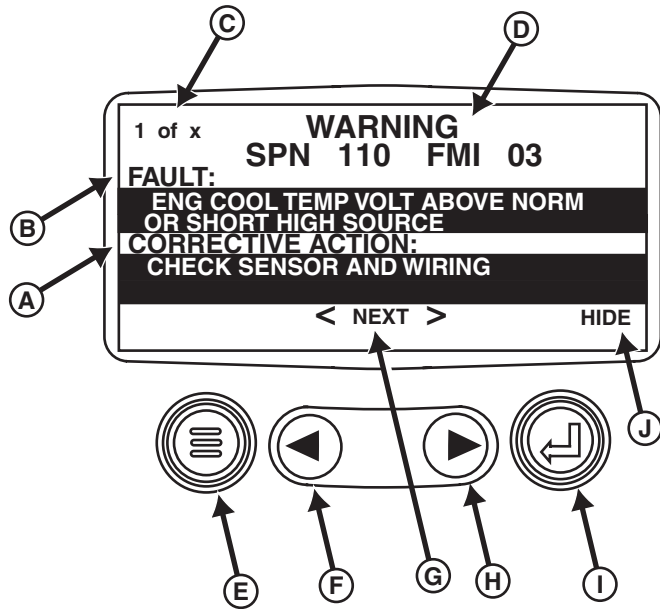

Figure 1. Active Code Diagnostic Screen
1. When the diagnostic gauge receives a diagnostic trouble code, the engine parameter screen is replaced with the "Warning" screen. See figure 1.
- SPN/FMI code (D). Refers to the trouble shooting diagnostic procedure.
- Name of diagnostic code (B) referenced in manual.
- A brief description for corrective action (A).
- The word "NEXT" (G) indicates there are more fault codes to be viewed.
- "1 of x" (C) indicates the current diagnostic code displayed of the total number.
- To hide (J) this screen and return to the parameter display screen, press the "Enter" Key (I). Pressing the Enter Key again returns to the warning screen.